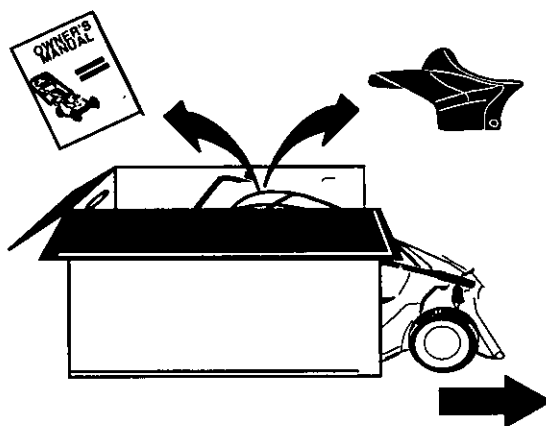

FIGURE 2
- Remove loose parts if included with unit (i.e., grasscatcher, owner's manual, etc.). See Figure 2.
- Roll or slide unit out of carton. Check carton thoroughly for loose parts. See Figure 2.